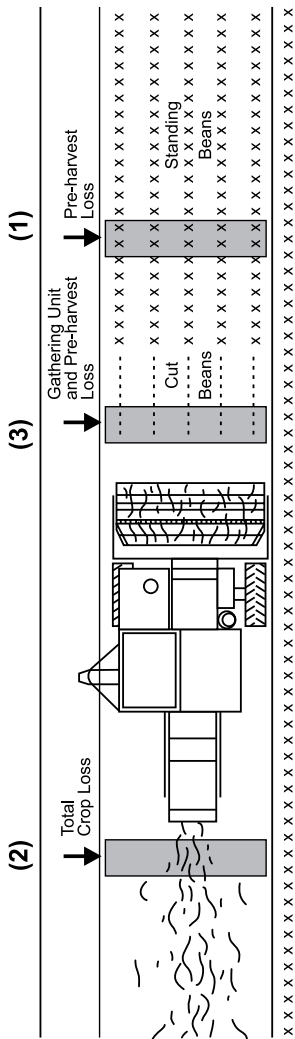

Figure 10. Location of areas to make seed loss counts.
Refer to Figure 10 and record your seed counts in the “Loss” table on page 135.
2. Using the 1-foot-square frame, count all beans in the frame as you move the frame across the width of the cutter bar. Refer to Figure 10.
This is location 1 in Figure 10.
This is location 2 in Figure 10.